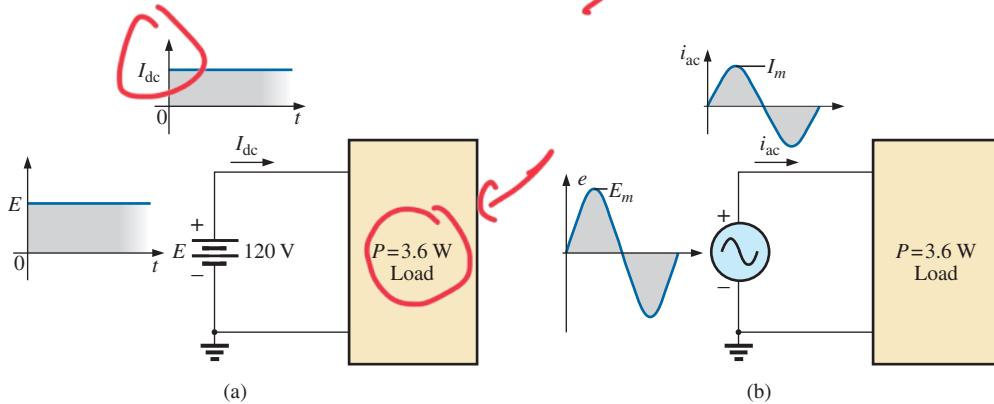

FIG. 13.61
**EXAMPLE 13.21** The 120 V dc source in Fig. 13.61(a) delivers 3.6 W to the load. Determine the peak value of the applied voltage ( $E_m$ ) and the current ( $I_m$ ) if the ac source [Fig. 13.61(b)] is to deliver the same power to the load.